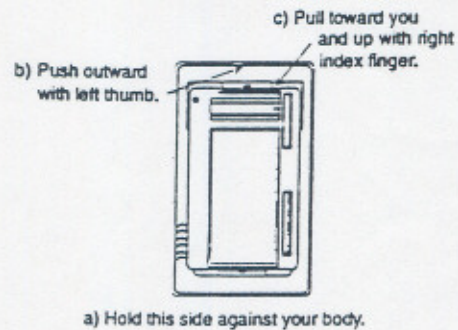

Figure 1. Disassembling the Control Panel
- 3) To gain access to the control panel circuit board, follow steps a, b, and c in Figure 1.
- 1) Reassemble the control panel by reversing the order of steps a, b, and c in Figure 1.